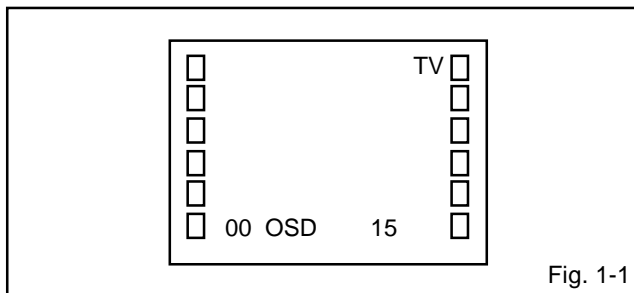

Fig. 1-1
1. In the condition of NO indication on the screen. Press the VOL. DOWN button on the set and the Channel button (9) on the remote control for more than 1 second to appear the adjustment mode on the screen as shown in Fig. 1-1.
4. Activate the adjustment mode display of Fig. 1-1 and press the channel button (02) on the remote control to select "RF AGC".
3. Activate the adjustment mode display of Fig. 1-1 and
4. press the channel button (01) on the remote control to select "CUT OFF".
4. Activate the adjustment mode display of Fig. 1-1 and press the channel button (13) on the remote control to select "R. BIAS".
3. Activate the adjustment mode display of Fig. 1-1 and press the channel button (04) on the remote control to select "H. POSI".
3. Activate the adjustment mode display of **Fig. 1-1** and press the channel button **(06)** on the remote control to select "H. SIZE".
3. Activate the adjustment mode display of **Fig. 1-1** and press the channel button **(05)** on the remote control to select "V. POSI".
3. Activate the adjustment mode display of **Fig. 1-1** and press the channel button **(07)** on the remote control to select "V. SIZE".
3. Activate the adjustment mode display of **Fig. 1-1** and press the channel button **(09)** on the remote control to select "V. LIN".
1. Activate the adjustment mode display of **Fig. 1-1** and press the channel button **(16)** on the remote control to select "BRI. CENT".
4. Activate the adjustment mode display of **Fig. 1-1** and press the channel button **(26)** on the remote control to select "TINT".